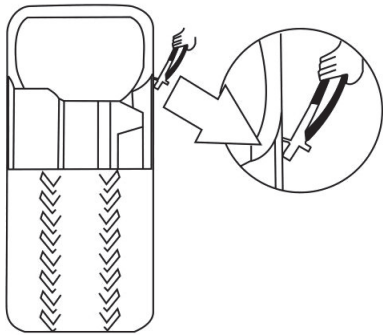

Fig.15
- Remove all the foreign substance and weights from the rim (as fig.15) .